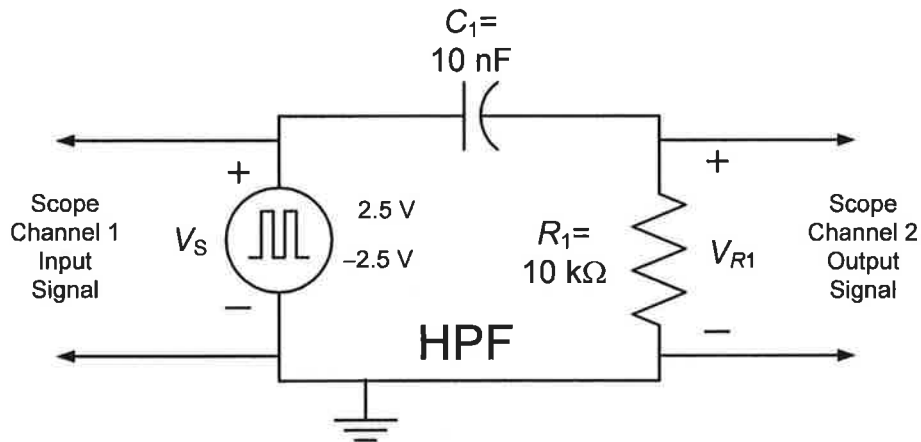

Figure 3. First-order  $RC$  circuit connected like a High-Pass Filter (HPF).
**Lab Experiment 1.c:** Switch the places of the 10 nF capacitor and 10 kΩ resistor as shown in Fig. 3 and use the oscilloscope to observe the voltage waveforms  $V_S(t)$  and  $V_{R1}(t)$  simultaneously for each one of the above source frequencies which are 500 Hz, 5 kHz, and 50 kHz. Sketch and label the waveforms. Explain why this circuit is referred to as a High-Pass Filter (HPF).